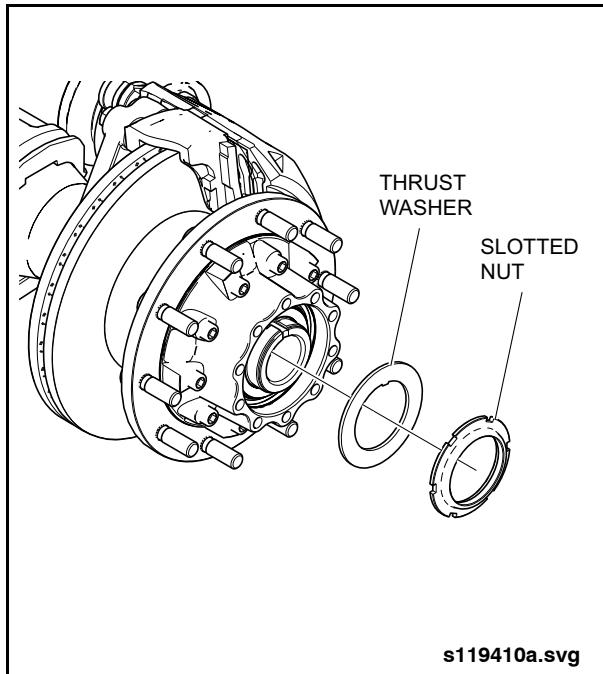

Fig. 2-17: Removing Slotted Nut
2. Remove the slotted nut and the thrust washer. See "Fig. 2-17: Removing Slotted Nut" on page 19.